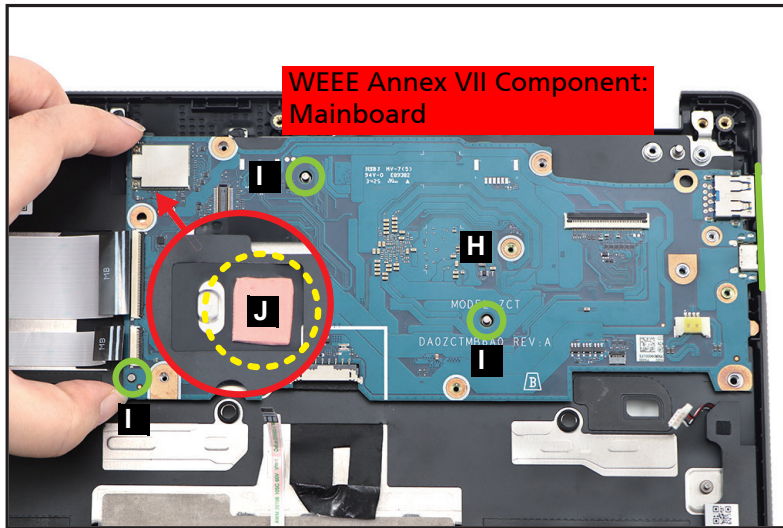

Figure 1-31. Mainboard Removal
8. Release the mainboard (H) from the I/O ports slots and guide pins (I) on the top assembly (Figure 1-31). Then remove the mainboard.